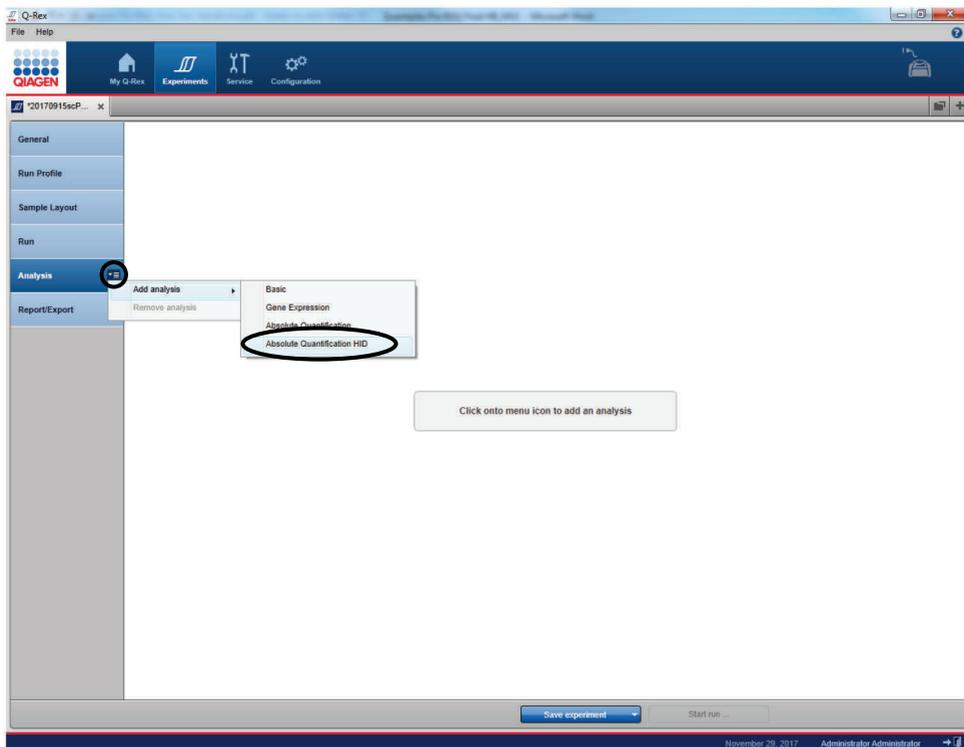

Figure 30. Selecting "Absolute Quantification HID" in Q-Rex.
5. Add analysis method by clicking on the selection menu within the “Analysis” step marker on the left side, followed by “Add analysis” and then selecting “Absolute Quantification HID” (Figure 30).